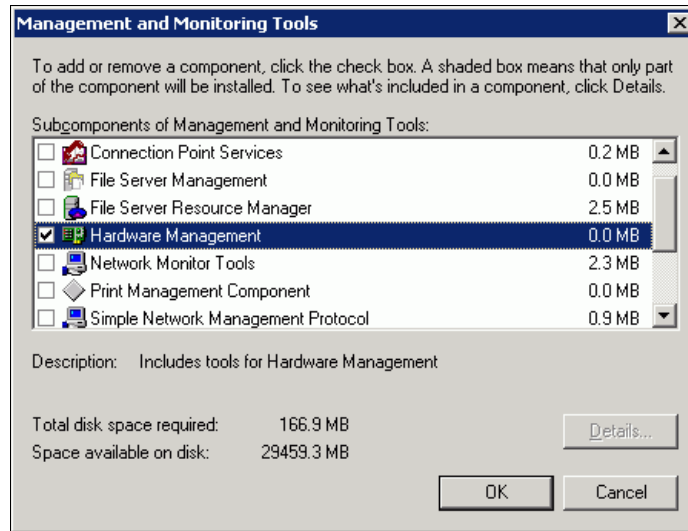

Figure 6-10 Windows Server 2003: selecting a subcomponent
2. Select **Management and Monitoring Tools** and click **Details**. The window shown in Figure 6-10 on page 313 opens.